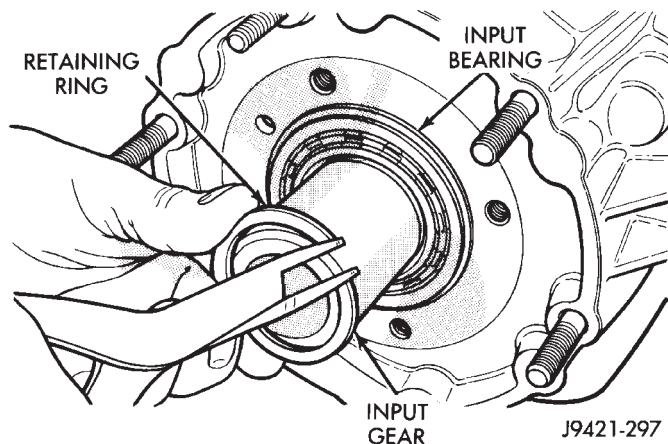

Fig. 39 Removing Input Gear Retaining Ring
(3) Remove input gear retaining ring with heavy duty parallel jaw snap ring pliers (Fig. 39).